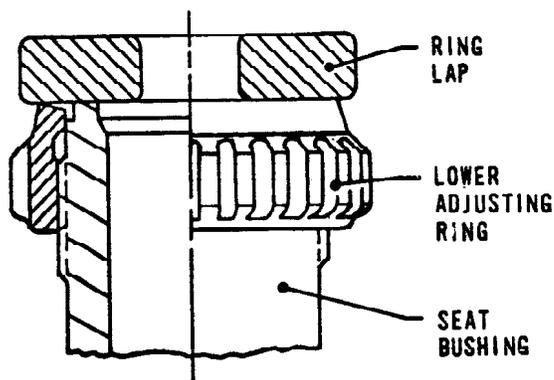

FIGURE 16
14. Loosen the lower adjusting pin until the pin is slightly clear of the notches in the lower adjusting ring. Being careful not to move the lower adjusting ring, place a ring lap on top the busing seat. (See Figure 16, below). Then, using the ring pin as a "pointer", or reference point, rotate the lower adjusting ring counterclockwise and count the number of notches that pass in front of the "pointer" until contact is made with the ring lap. Record this information, as it will be required to correctly re-assemble the valve.